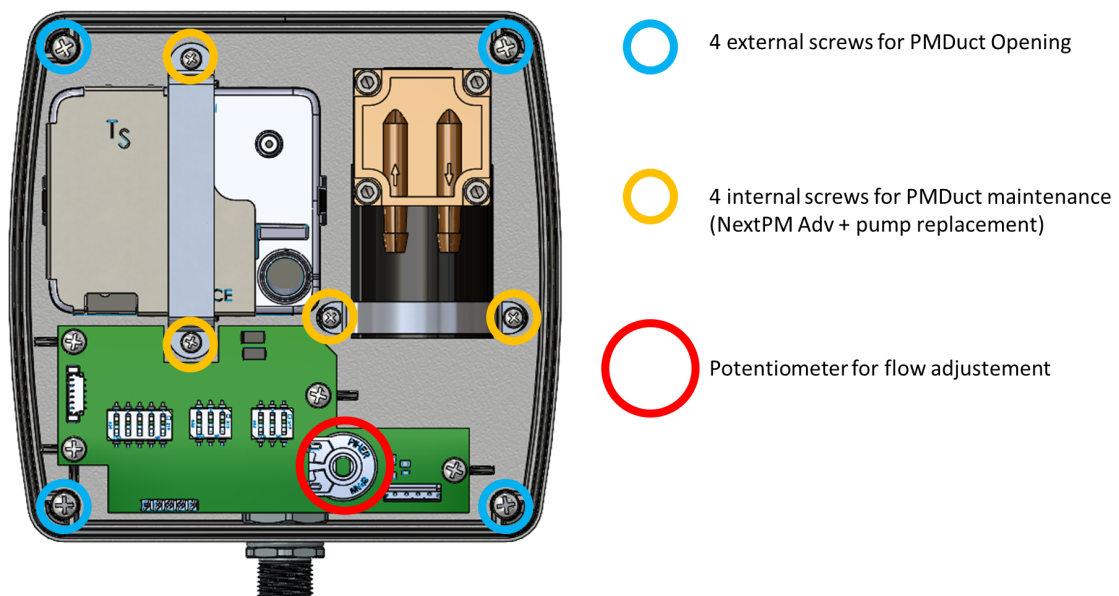

Figure 5: Maintenance guidance for ePMDuct
- Unplug the 2 screws (Orange marks Figure 5) to release the device.